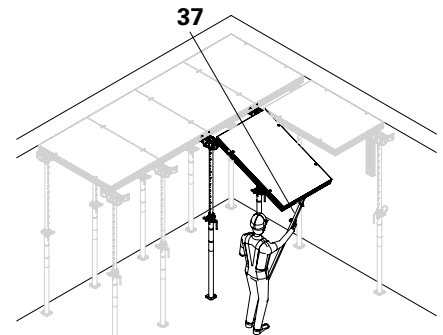

Fig. D2.14b
2. Push the DP panel (**10**) upwards using the DUO shuttering aid (**37**) and set it down on the shuttering aid. (Fig. D2.14b)